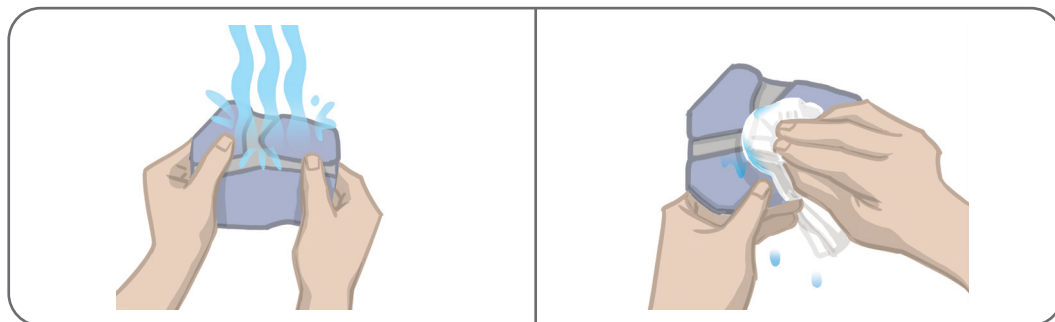

Figure 6-7: Wetting the Electrode and Removing Excess Water
3. Wet the entire Steering Electrode with water. See Figure 6-7.
4. Remove excess water from the Steering Electrode with a cloth. See Figure 6-7.